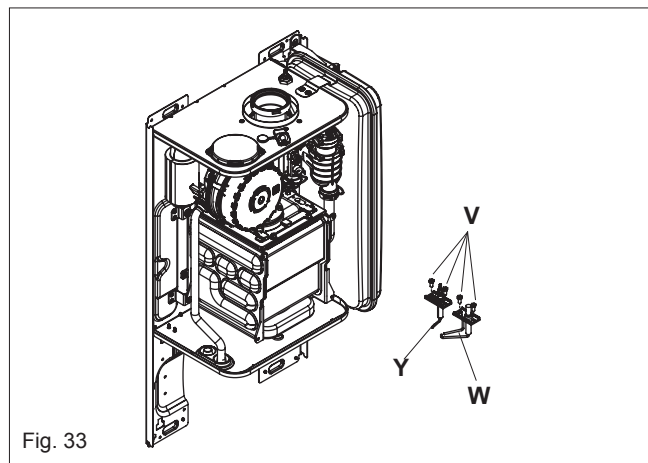
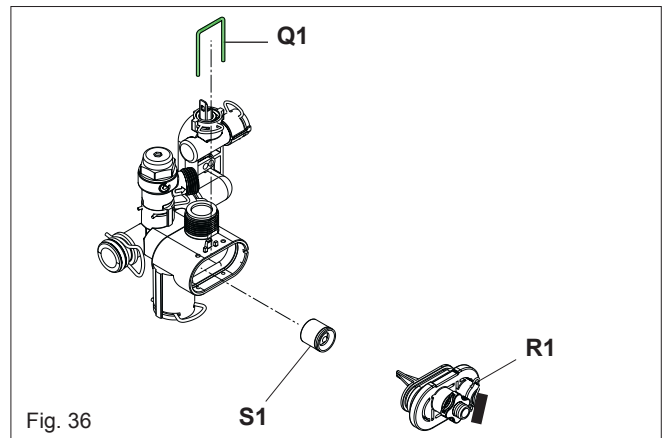

Fig. 33
Fig. 36
6.13 ELECTRODES (fig. 33)
6.17 AUTOMATIC BY-PAS (fig. 36)
Isolate the appliance from the electrical supply and remove the appliance casing as described in 4.7.1, to gain access to the printed circuit board, locate and open the closing plug on the dash board (L2), Restore the electrical supply to the boiler and switch the boiler to the OFF mode. locate and press the CO button (see fig. 36 pos. SW1). Press the button the number of times according the function requirement as par 7.3.1. Set the flue gas analyser to read CO₂ and insert the probe into the flue analysis test point (Y1-Z1 fig. 33).